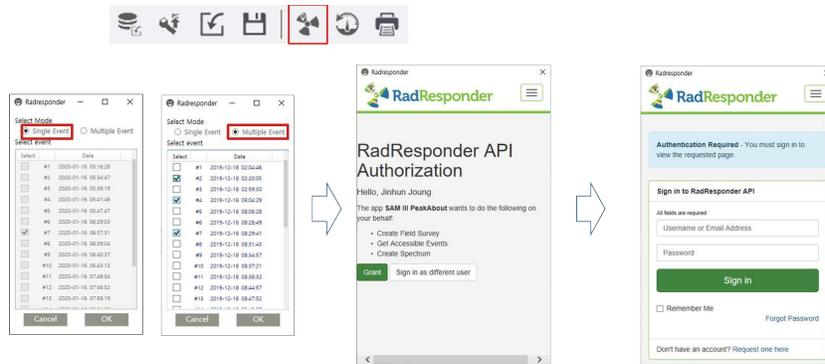

Figure 7.8.7. Send Event to RadResponder Example
2. Click the disk icon  in the lower left corner of the screen (Figure 7.8.7.) The RadResponder screen will appear.